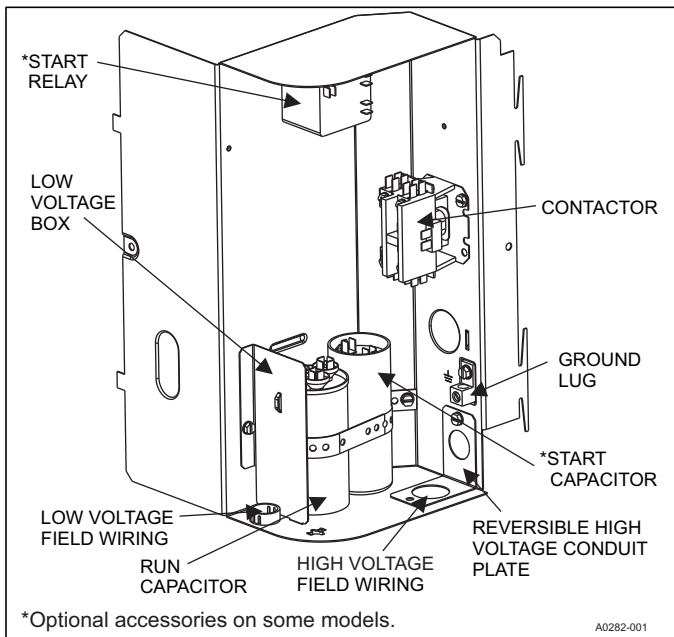
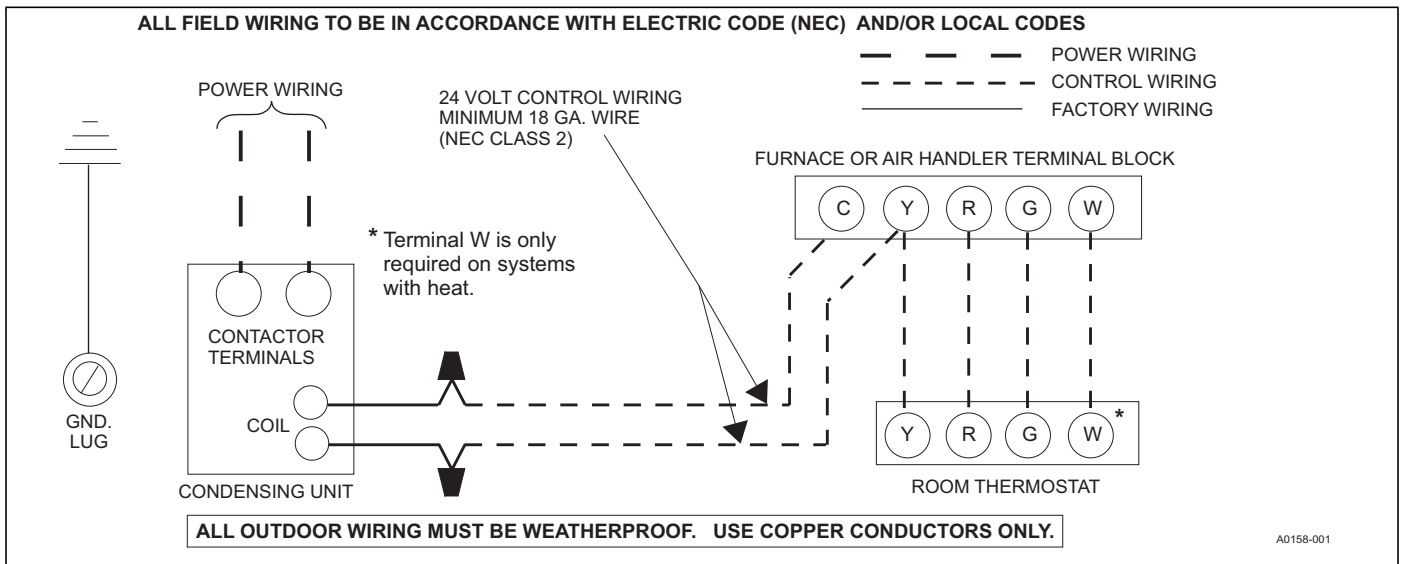

FIGURE 12: Outdoor Unit Control Box (Single Phase - Smaller Base)
FIGURE 15: Typical Field Wiring (Air Handler / Electrical Heat) (Single-Phase)
1. Route low voltage wiring into bottom of control box as shown in Figure 12, 13 or 14. Make low voltage wiring connections inside the low voltage box per Figure 15.